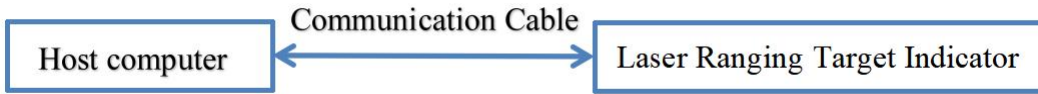

Figure 4 Connection diagram
- Before starting up, according to the interface requirements of 1.4, connect the laser detector, debugging cable, DC power supply and host computer as shown in Figure 4;